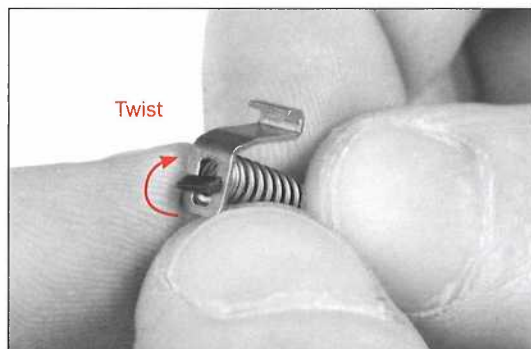

Fig. 264
- Install the trigger spring bearing by pushing it down against the trigger spring and then twist the trigger spring rod as shown to lock it in place. (Fig. 264)